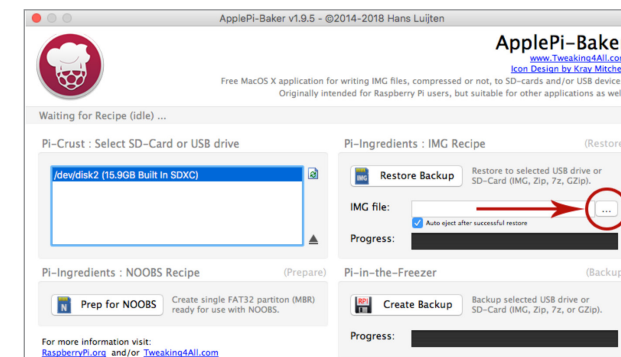

Figure 4-6. ApplePi-Baker - Ingredients selection.
7) On the right side, in the Pi-Ingredients section, tap the '...' button to open the File Browser and select/open the Pulp Fiction .img file (figure 4-6).